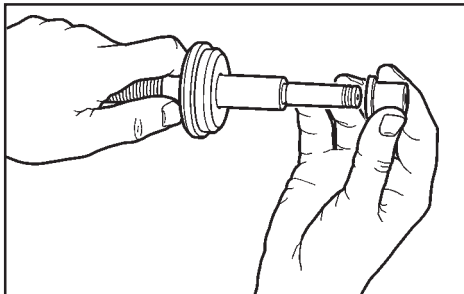

Figure 1
1. Slide the new bushing over the burnishing end of the installer. See Figure 1.